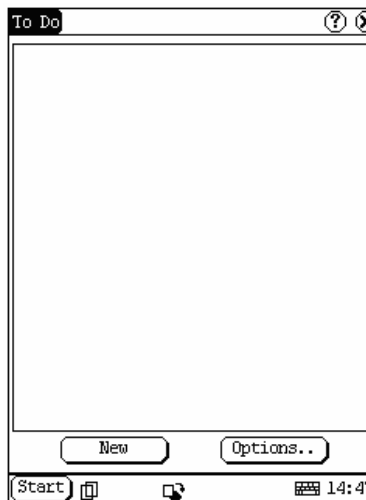

Figure 4-26
- 3) Click [Options] button to open the To Do Display interface. (See Figure 4-26)